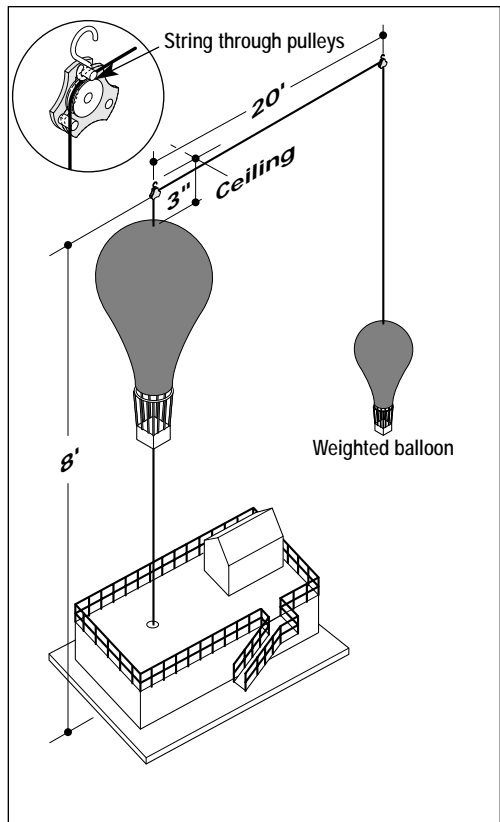

Figure 2. Balloon set-up
**Y**ou must choose two locations on your layout for the Hot Air Balloon ride. The first location is for the platform. The second location is a landing area for the weighted balloon. The balloons are suspended above these locations by pulleys, which must be attached to the ceiling. Refer to Figure 2.
5. Place the weighted balloon on the landing location and route the string around the two pulleys. As illustrated in Figure 2, this string should terminate a few inches below the pulley above the platform.